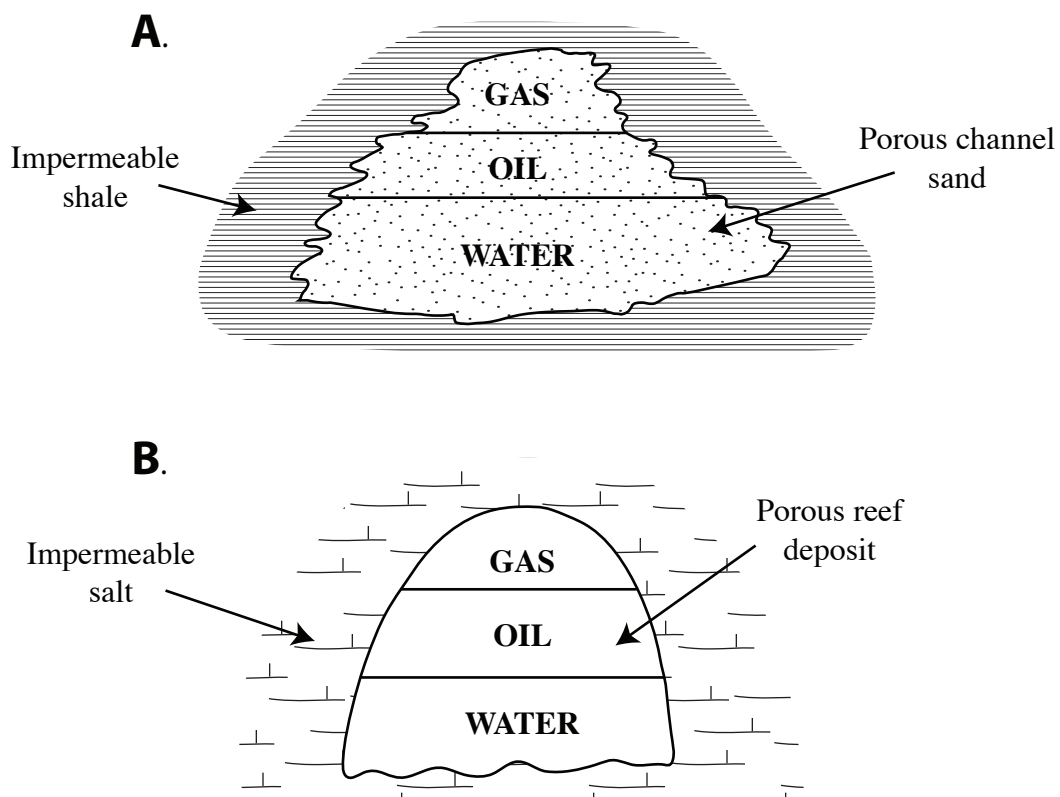
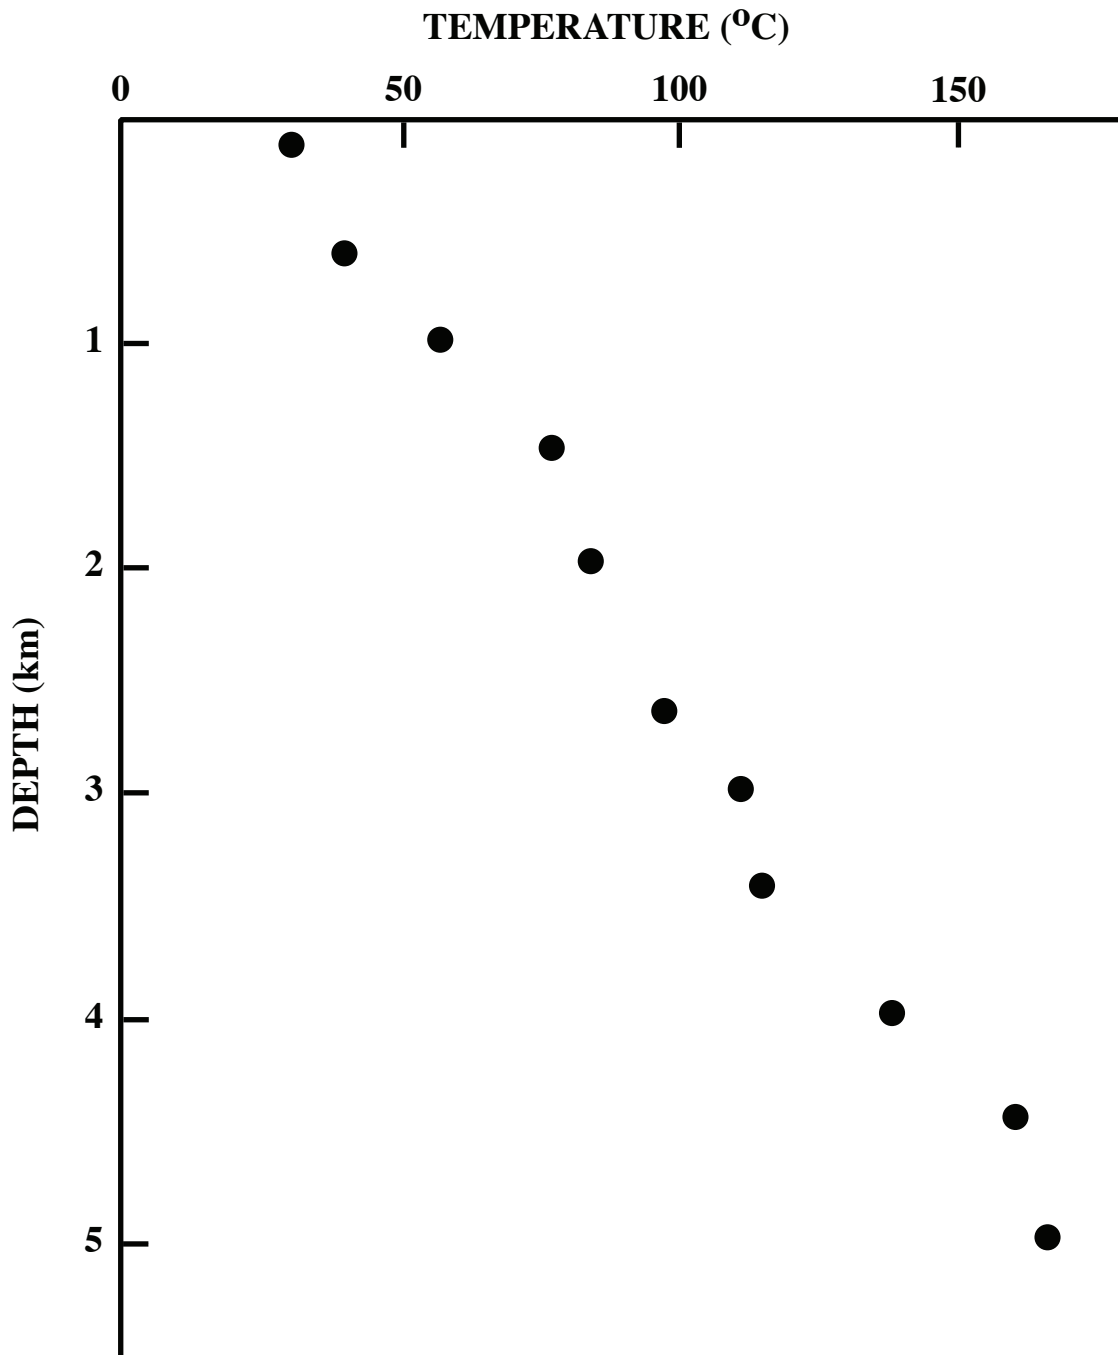

Figure 3. Stratigraphic petroleum traps. (a) Impermeable shale. (b) Impermeable salt.
Figure 6. Temperature versus depth for the Pan-Am/Gilbert well.
The initial amounts of organic matter in nearly all sediments are too low and dispersed to form commercial quantities of oil or gas in the source rocks. Significant deposits occur only when migration of the oil and gas leads to accumulation in a smaller volume of reservoir rock (commonly porous sandstones or limestones) and further migration is prevented by a structural (e.g., a fold or a fault) or stratigraphic (e.g., an impermeable bed made of shale or rock salt referred to as a trap rock) trap (Figures 3 to 5). Reservoir rocks typically have significant porosity and permeability that can be filled with hydrocarbons. Within a petroleum reservoir there is a predictable stratification of materials filling available porosity based on the density of the geofluids present in the reservoir (Figure 3). Natural gas will be present at the top of the reservoir, crude oil, if present, will be in the middle of the reservoir, with water at the bottom of the reservoir.
10. In Figure 6 well-temperature versus depth is plotted for the Pan-Am/Gilbert well near Port Arthur, Texas. Calculate the geothermal gradient ($^{\circ}\text{C} / \text{km}$). Additionally, sketch in the depths most likely to produce crude oil and natural gas as horizontal zones on Figure 6. Refer to Figure 3.